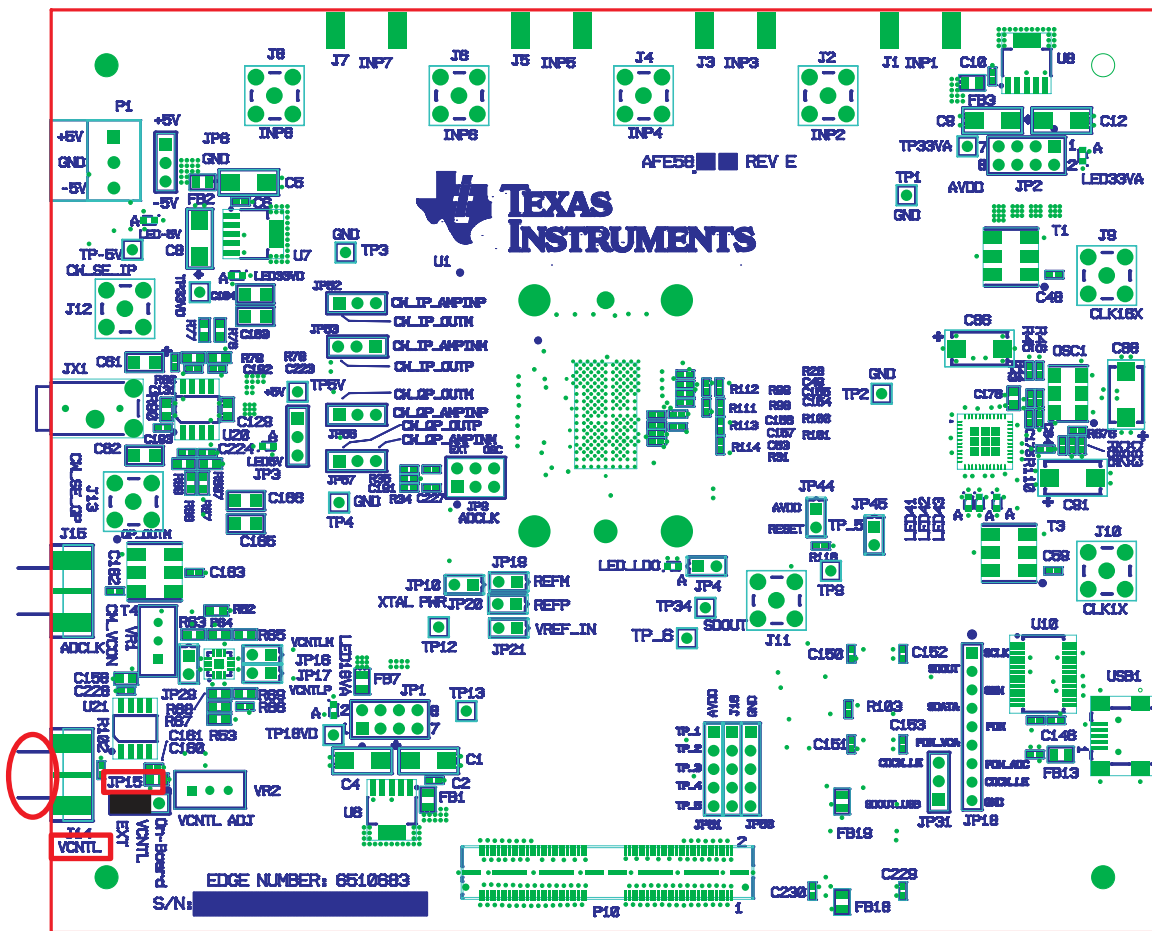

Figure 6. External Vcntl Configuration
- A power supply is required to be connected as shown in Figure 6.